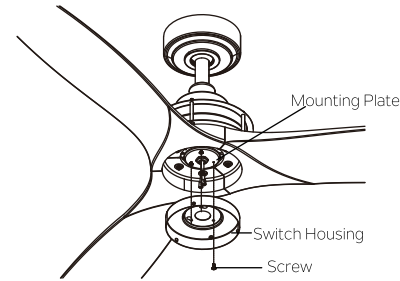

Fig. 24
Step 4. Place the two slot holes on the switch housing over the 2 screws previously installed on the mounting plate. Rotate the switch housing until it locks in place at the narrow end of the key holes. Secure by tightening the 2 screws previously installed and the one previously loosened on step 2. (Fig. 24)